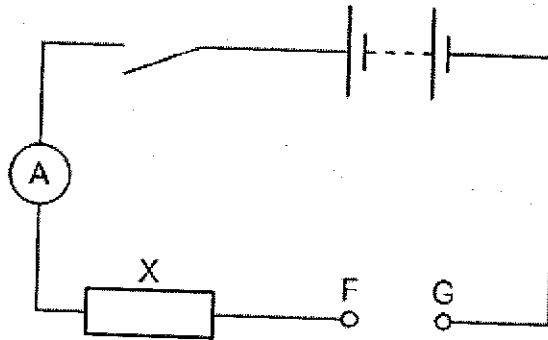

Fig. 1.2
- (a) Set up the circuit as shown in Fig. 1.2 with a resistor of resistance  $68.0 \Omega$  between F and G.